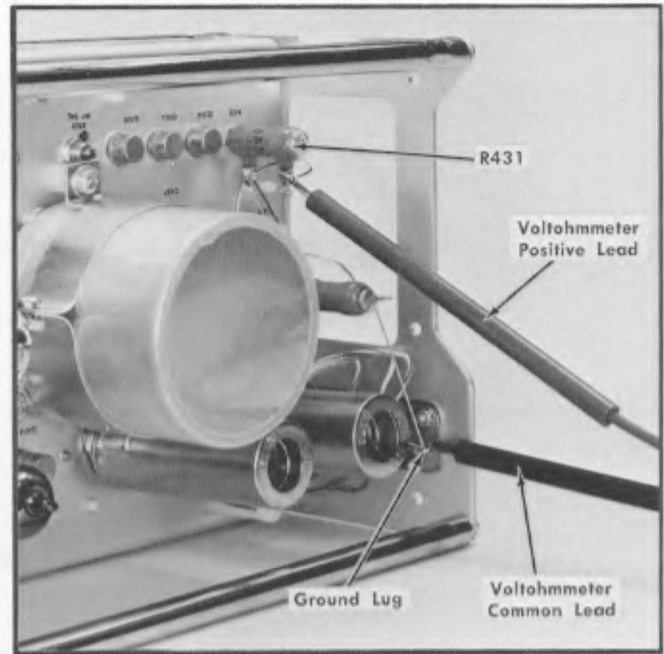

Fig. 6-7. Location of R431 and test points.
- Connect the meter common lead to ground on the Type 2A61. A convenient ground lug is shown in Fig. 6-7.
- Connect the meter positive lead to the white-red lead on R431, as shown in Fig. 6-7.